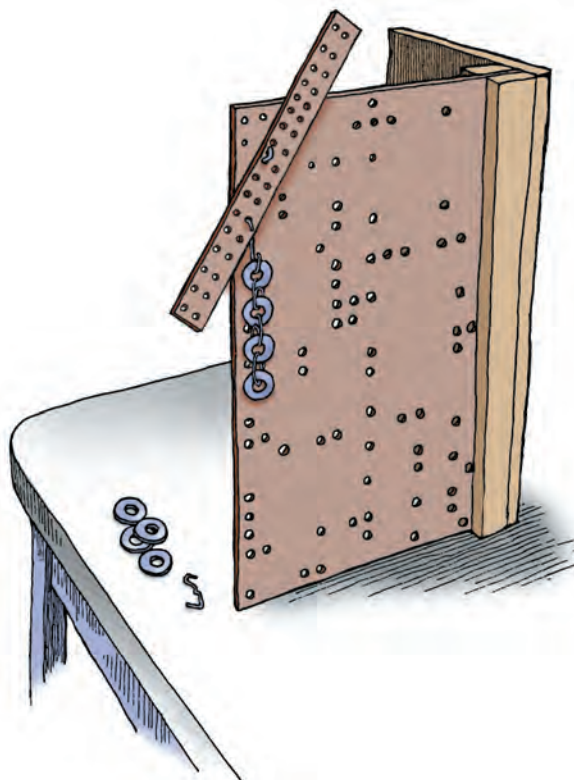

Figure 13.3 Four washers suspended three holes away from the pivot point
4. Hang four washers and paper clips three holes from the left of the pivot point, as shown in Figure 13.3.
5. When the four washers and paper clips are on the left as shown in Figure 13.3, why doesn't the lever balance? Put four washers on the right side so that they balance the lever. Where are the washers on the right located?